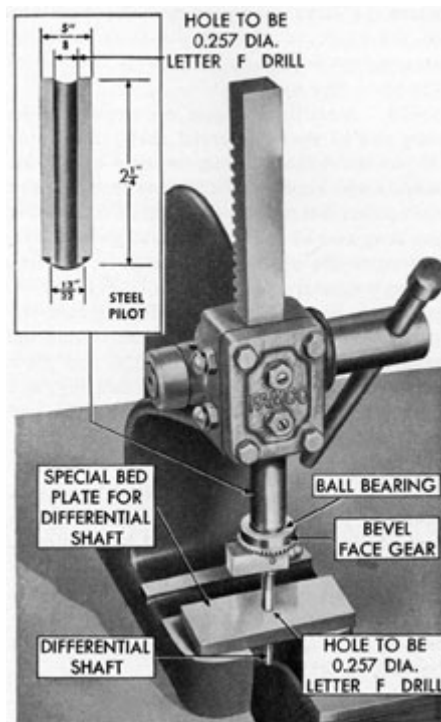

Figure 5-64. Installing bearing on short end of differential shaft.
**5M22. Installing the gear and bearing on the short end of the differential shaft.** (See Figure 5-64.)
Support the shoulder on the long end of the differential shaft in a special bed plate on an arbor press as shown in Figure 5-64. This is necessary in order to prevent bending the shaft. Place one of the differential bevel face gears over the short end of the shaft with the gear teeth facing the spider. Place one of the two identical ball bearings over the short end of the shaft, and align the bearing with the opening in the gear housing. Using a special pilot as shown in Figure 5-64, press the bearing into the gear housing. Remove the assembly from the arbor press.
**5M23. Installing the gear and bearing on the long end of the differential shaft.** Place the second bevel face gear on the long end of the differential shaft with the gear teeth toward the spider. Place the second ball bearing over the long end of the shaft and align the bearing with the opening in the gear housing. Using a special pilot as shown in Figure 5-64, press the bearing on the shaft and into the gear housing. Remove the assembly from the arbor press. Place the differential end plate and gear hub assembly over the bearing, and install the four screws that secure the end plate and gear hub assembly to the bevel face gear.